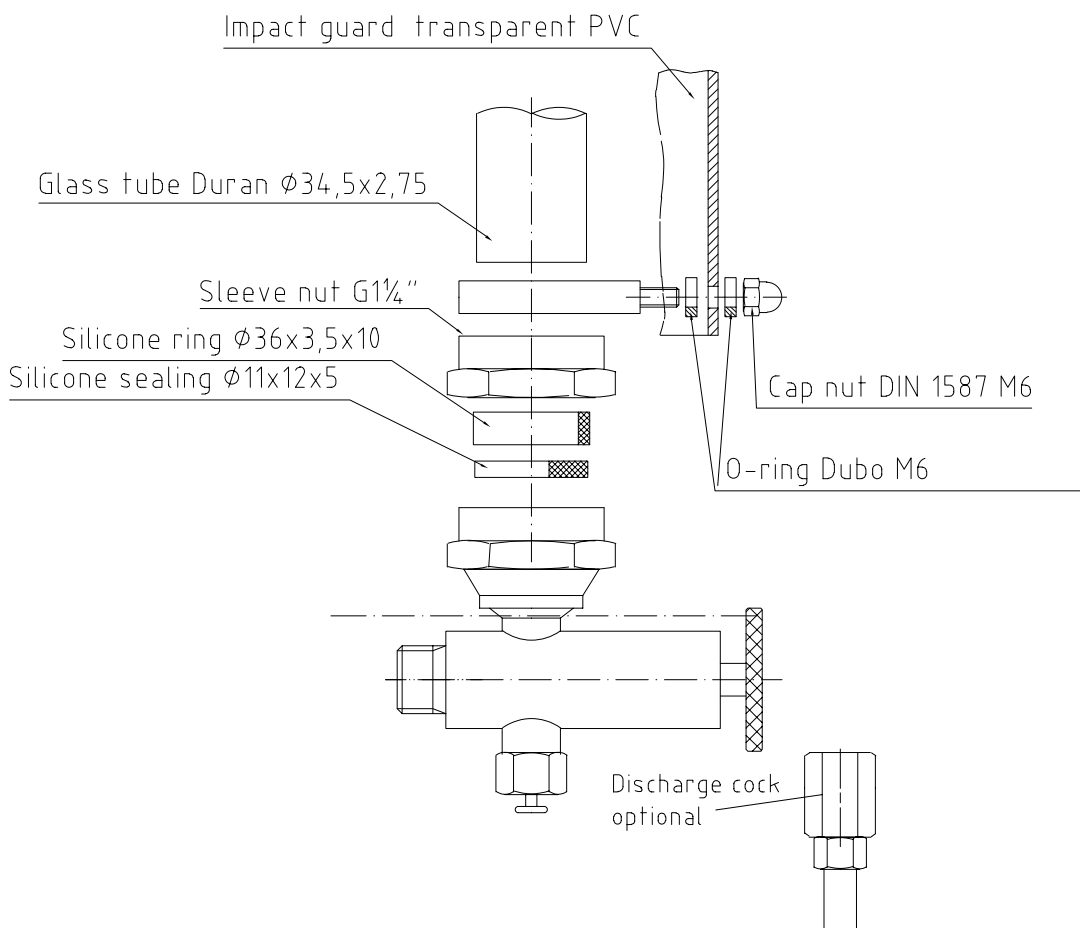

Fig.. 2: GNR5C with Threaded Connectors:
- Push the hose clamps for fastening the impact guard and the sleeve nuts, along with the silicon rings (which have been snapped into place inside the nuts), over the standpipe (see figure 2).
- Mount the transparent impact guard (see figure 2).